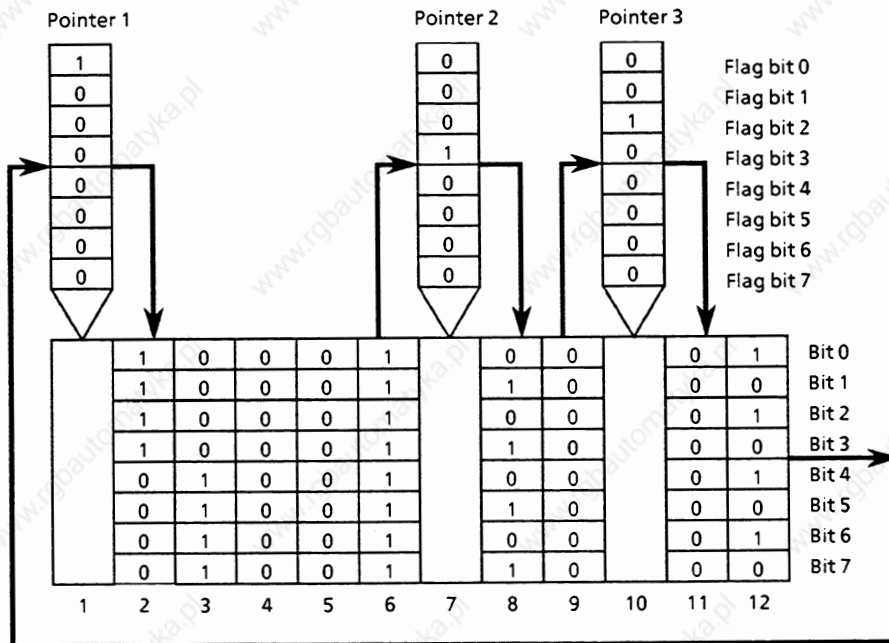

Fig. 19 Schematic diagram of the shift register with 3 pointers and 12 storage locations before the first clock pulse
- Before the SR function call: setting/resetting the flag bits (Fig.19).